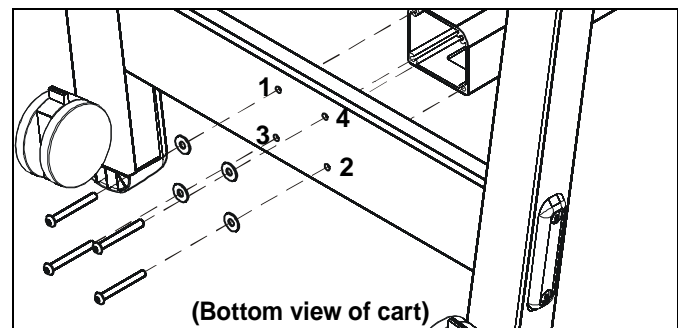
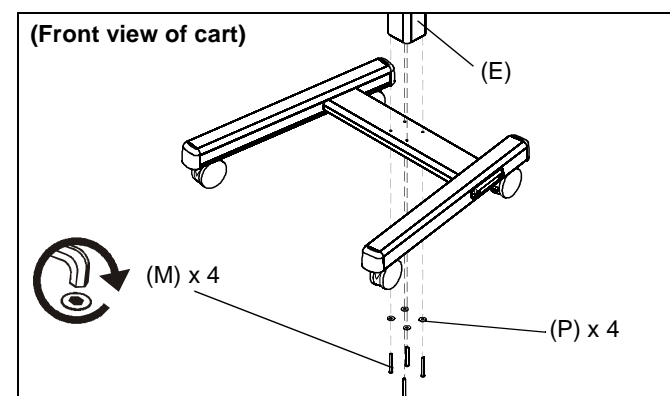

Figure 3
Figure 4
**NOTE:** Insert and turn screws in order shown (1, 2, 3, 4) in Figure 3.
5. Attach center post (E) to leg assembly using four 5/16-18 x 2-3/4" button head cap screws (M) and four 5/16" washers (P). (See Figure 3) and (See Figure 4)